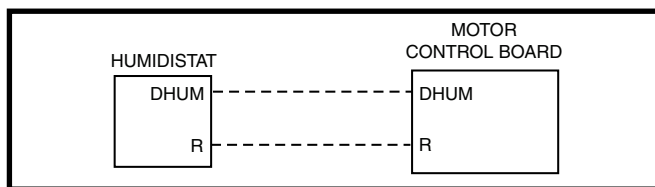

Figure 6. DHUM Wiring Configuration
1. If the room thermostat incorporates a humidity sensor and **DHUM** output, connect the **DHUM** on the thermostat to the **DHUM** terminal on the motor control board. Figure 6.